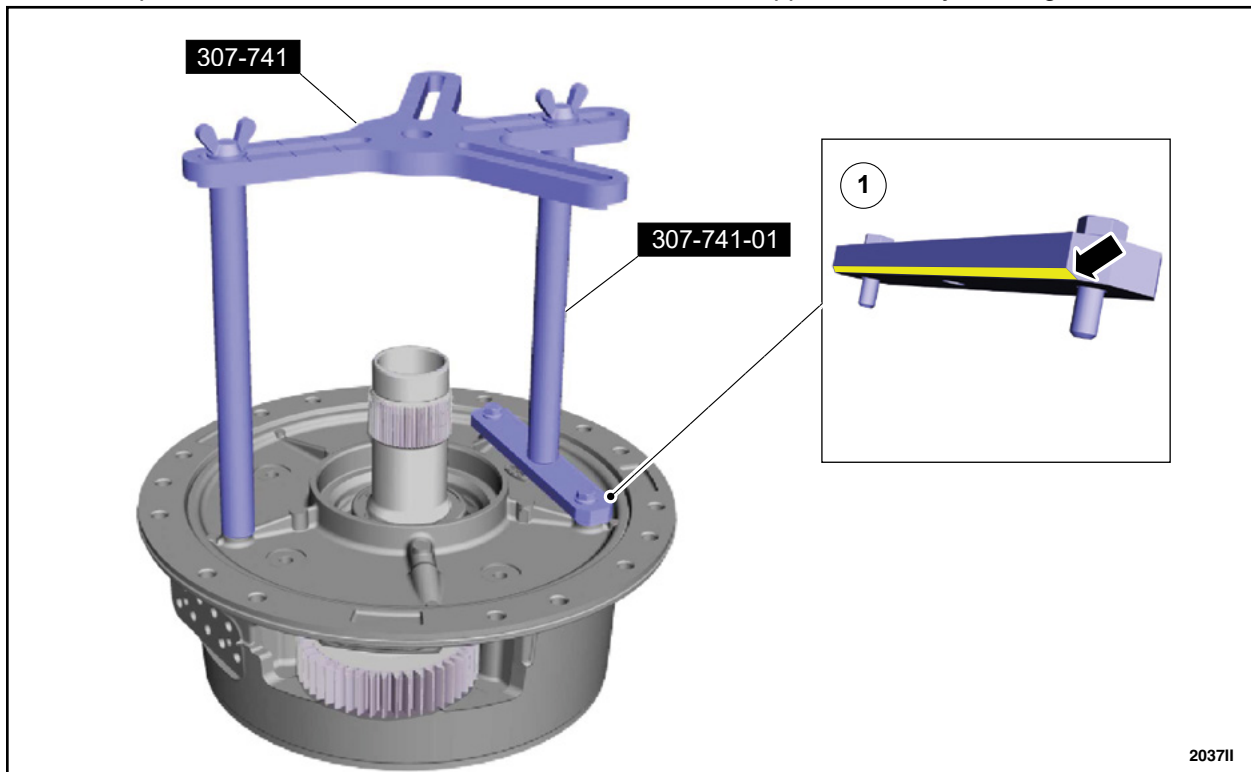

FIGURE 27
29. Install special tools 307-741 and 307-741-01 onto the front support assembly. See Figure 27.